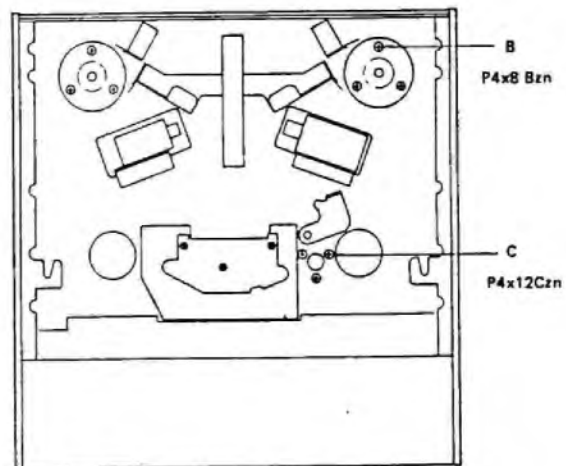

Fig. 6.8
- * Remove three of screw (C), in Fig. 6.8 and the capstan assembly can be lifted out.